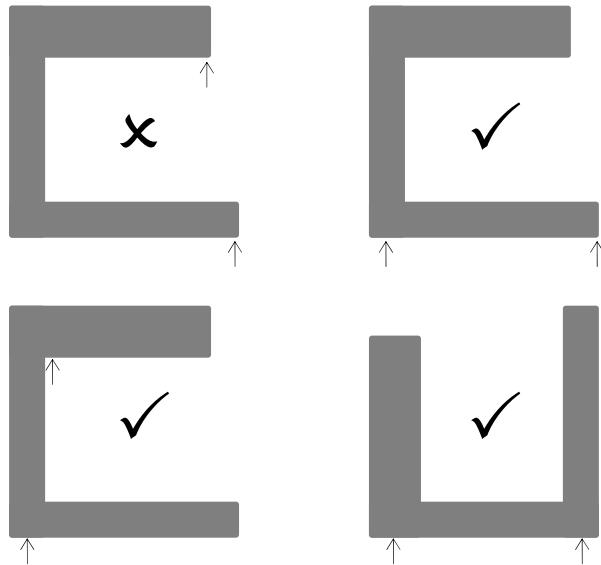

Figure 2. The correct way to lift the Agilent SPS 3.
To avoid damage to the Agilent SPS 3, do not lift it by holding the X-axis arm. Always lift the Agilent SPS 3 from underneath the whole assembly (see Figure 2, Page 24, for holding positions).
- 6** Prior to lifting the Agilent SPS 3, refer to Figure 2 for the correct holding positions: